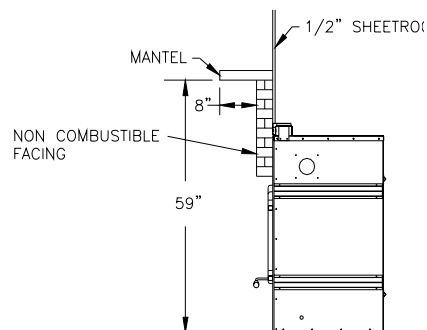

FIGURE 15: NON-COMBUSTIBLE FACING
2. Non-combustible materials such as brick, stone or ceramic tile may project in front of and onto the steel front façade of the Inglenook Fireplace. Figure 15 shows the proper installation of non-combustible material with reference to overlapping the fireplace front façade.